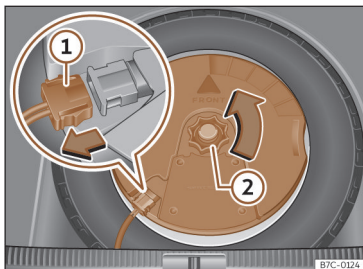

Fig. 232 In the boot: remove the subwoofer.
- Disconnect the subwoofer's speaker cable >>> Fig. 232 ①.
- Turn the securing wheel anti-clockwise >>> Fig. 232 ②.